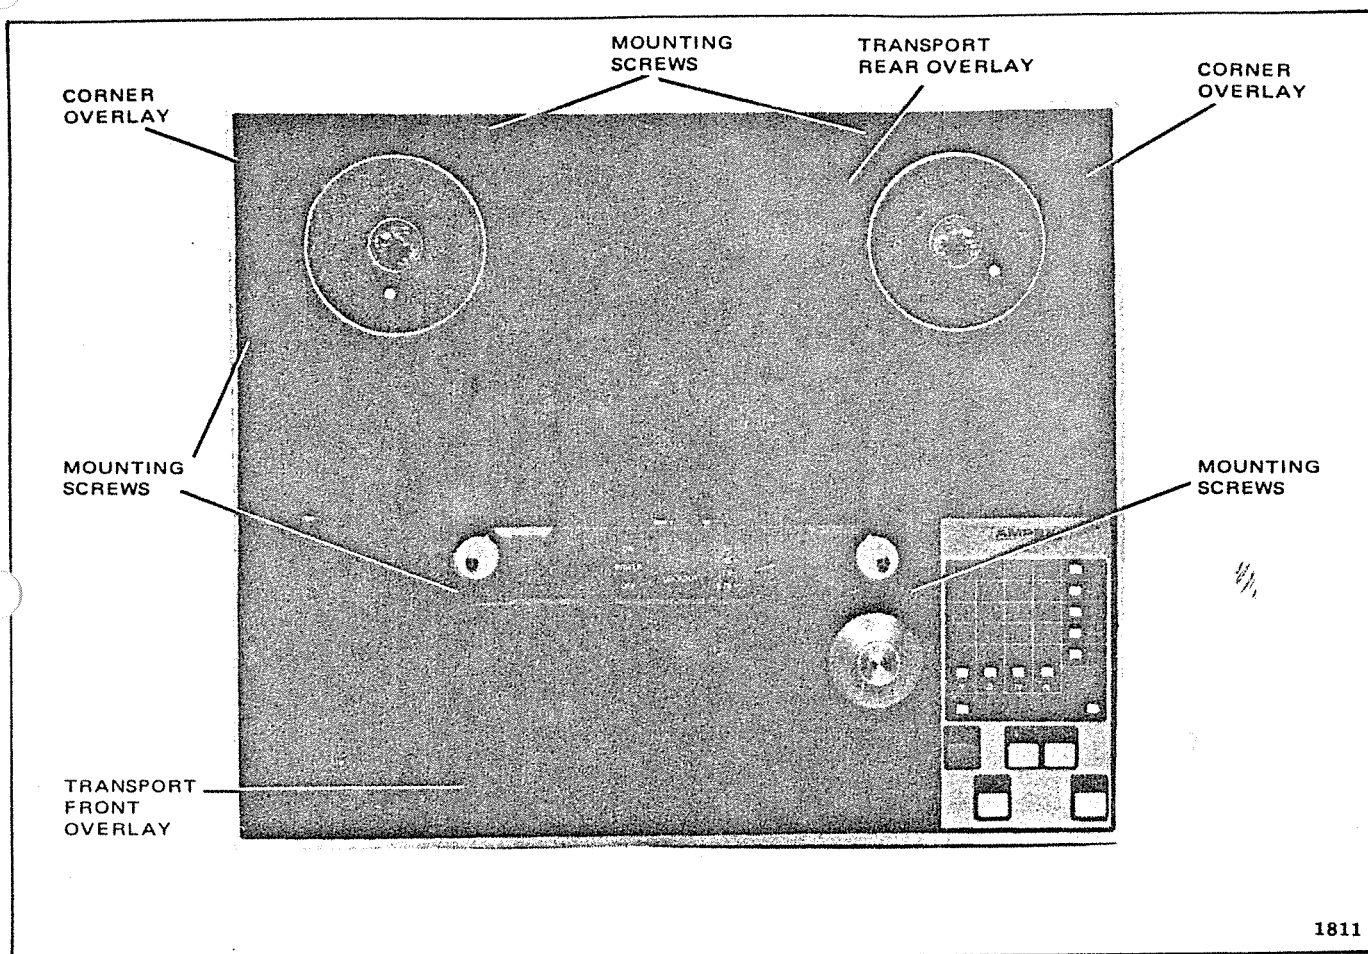

Figure 3. Rear Overlay Panel, Six Mounting Screws
15. Remove six screws holding rear overlay panel and remove panel (see Figure 3).